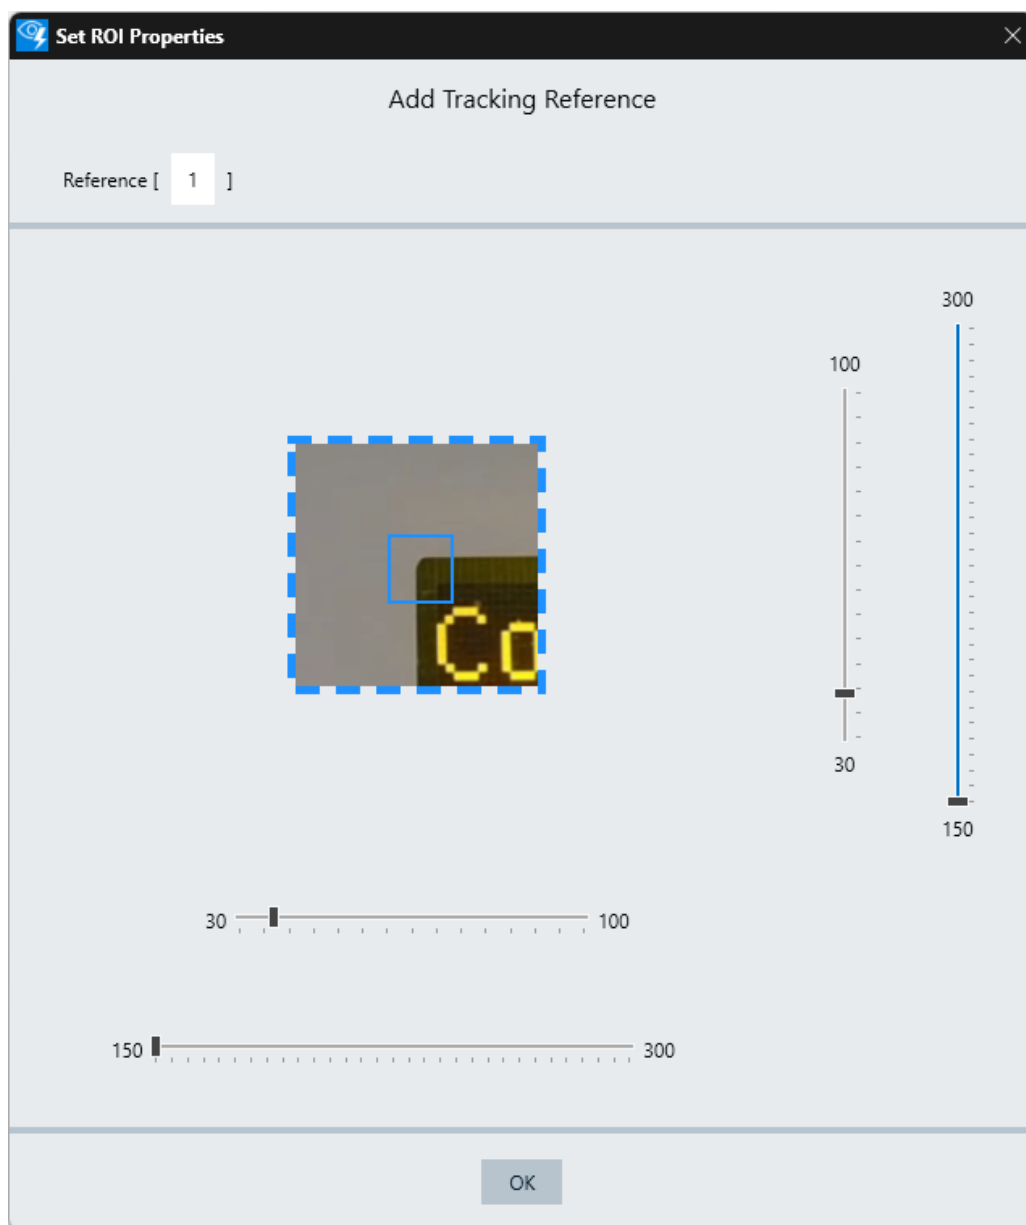

Figure 7-1: Property window for tracking reference
You can add a tracker using the properties menu shown in Figure 7-1.
- Set the tracking reference to picture areas that contain the horizontal and vertical structures similar to Figure 7-1.